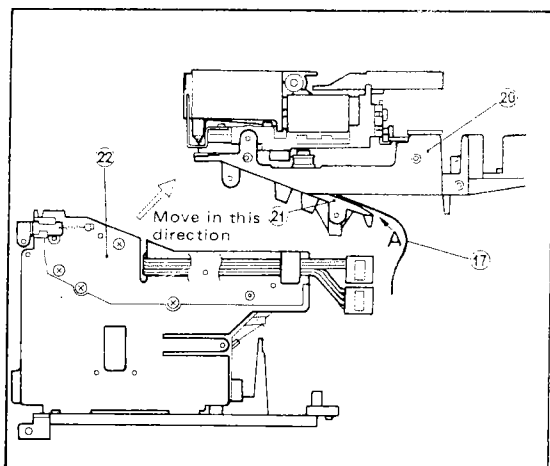

Figure 10-9. Chart Drive Unit Disassembly (2).
- (5) Move the upper die casting unit (number 20) in the direction of the arrow for removal from the lower unit (number 22) (see Figure 10-9).
- (6) Working in area "A" of the upper die casting unit, insert a mylar sheet, supplied with the recorder, between the roof plate (number 17) and the bottom of the upper die casting unit (number 20), to clear the chart paper feed path (number 21). Do not bend the roof plate (number 17).